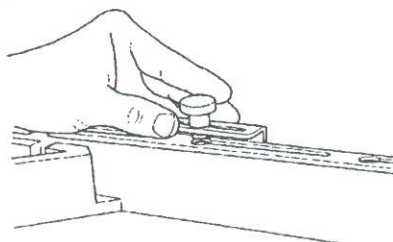

Fig.13
12. Insert the head of the carriage bolt through the wide opening in any slot on the long extension. Slide the stop block to the right and finger tighten the knob. The angled tip of the stop block should be pointed toward the intersecting extensions, as in Fig.13.